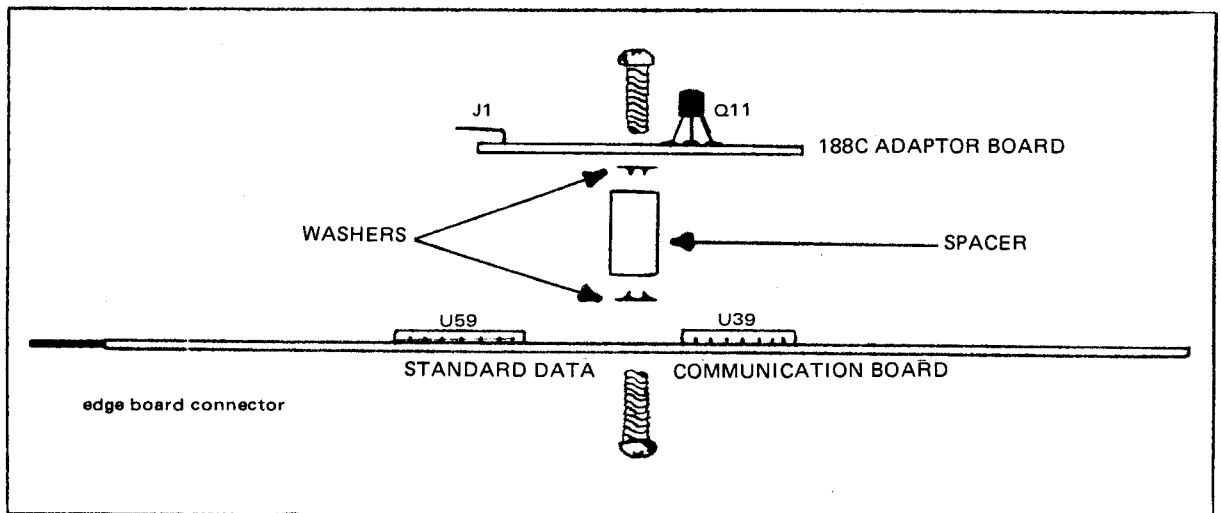
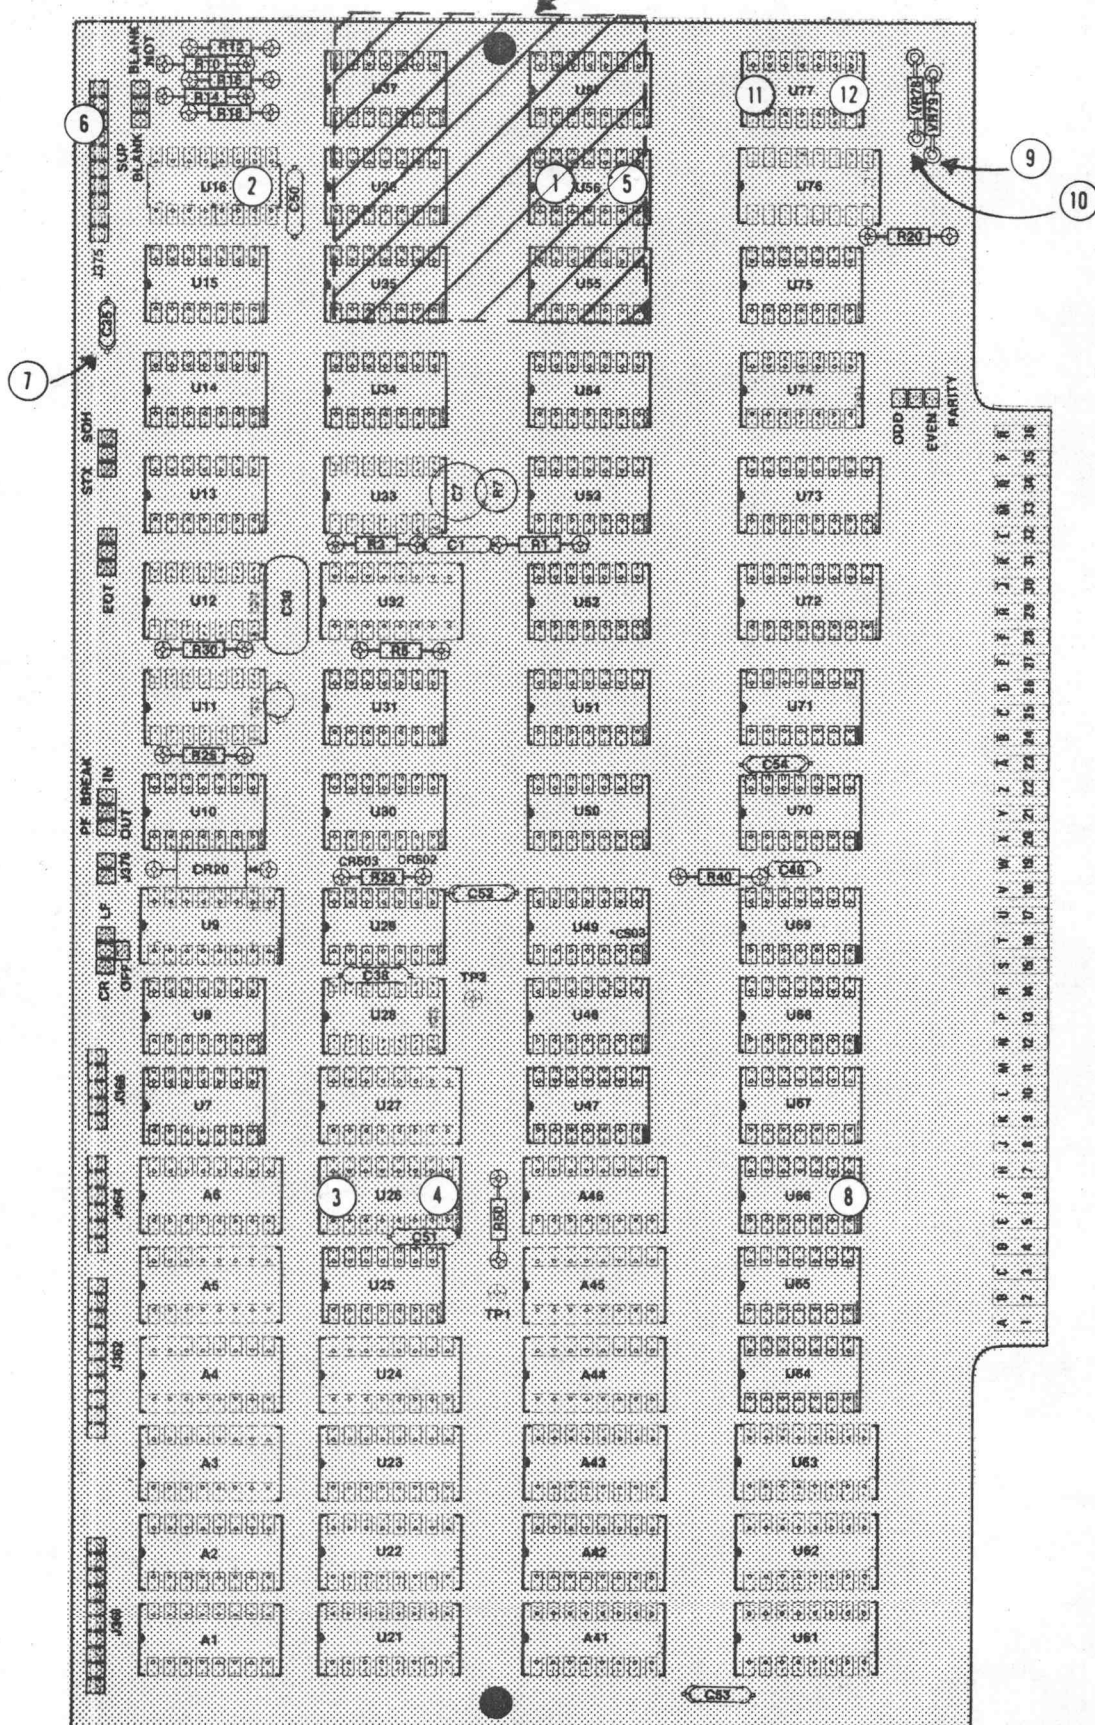

FIGURE 2. PLACEMENT OF 188C ADAPTOR ON STANDARD DATA COMMUNICATION BOARD.
FIGURE 3. MODIFIED COMPONENT LOCATIONS FOR OPTIONAL DATA COMMUNICATIONS INTERFACE (670-2194-XX)
The Adaptor board should be placed near U59 and U39 on the Data Communication board. Align tooling holes of the two boards so the J1 connector on the Adaptor board is facing toward the edge board connector of the Data Communications board. Using the washers and spacer provided to separate one board from the other, attach the two boards with the screws provided as illustrated in Figure 2. Plug the harmonica connector into J1 on the Adaptor board, and reinstall the modified Interface card into the Terminal.
To install the 188C Adaptor, refer to the following instructions, and see Figure 3. (Circled numbers below match the corresponding numbers in Figure 3.)
- ⑤ Solder 9-3 (wht/org) wire to U56, pin 10.
- ⑥ Solder 9-4 (wht/yel) wire to J375, pin 3.
- ⑦ Solder 9-1 (wht/brn) wire to the side of C35 shown in Figure 3.
- ⑧ Solder 9-2 (wht/red) wire to U66, pin 12.
- ⑨ Solder 9-5 (wht/grn) wire to VR79, cathode end (+15V) as shown in Figure 2.
- ⑩ Solder 9-6 (wht/blu) wire to VR78, anode end (-15V) as shown in Figure 2.
- ⑪ Solder 9-N (white) wire to pin 14, U77 (+5V).
- ⑫ Solder 9-Ø (wht/blk) wire to pin 7, U77 (GND).